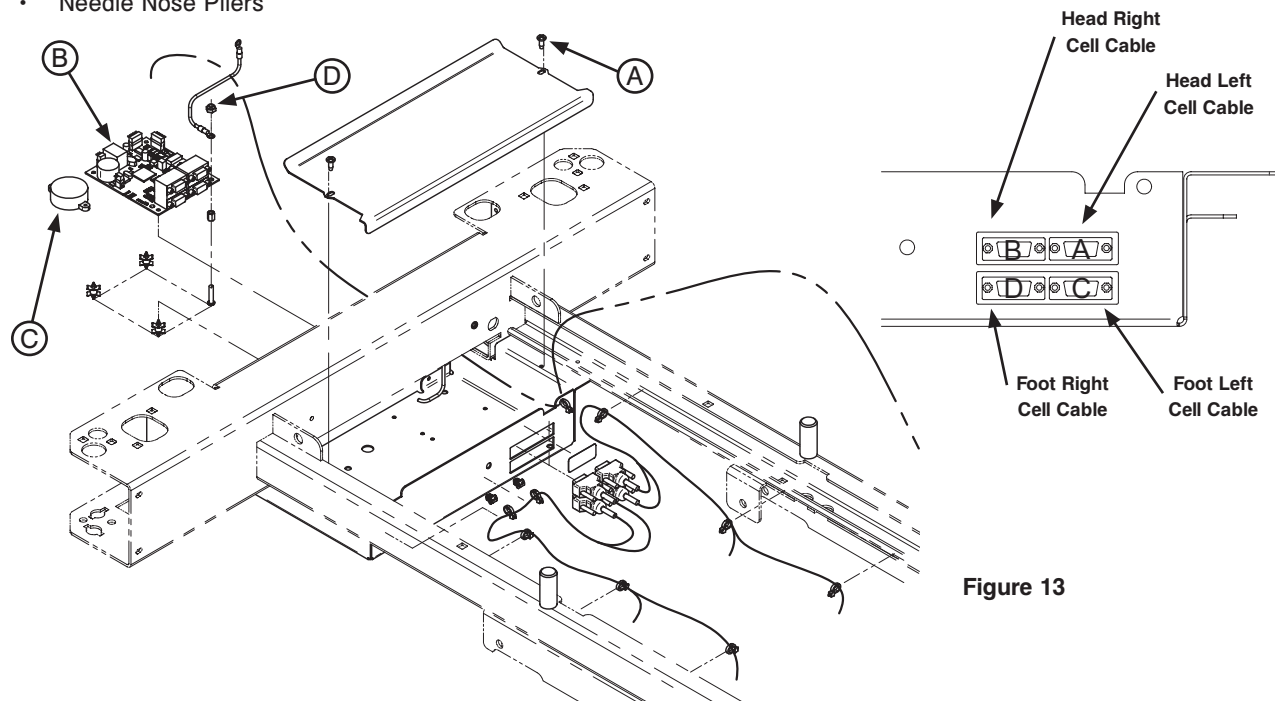

Figure 13
Refer to Figure 13, page 55, for this procedure.
Ensure the load cell cables on the scale/bed exit board are properly reconnected. Refer to Figure 13 when reconnecting the load cell cables.
3. Using a #2 Phillips screwdriver, remove the six screws holding the cover (A) to the litter. Keep the cable clips.
4. Using a #2 Phillips screwdriver, remove the two screws (A, Figure 13, page 55) holding the cover plate to the litter.
6. Using a 1/2" combination wrench, remove the nut (B), washer (C) and bolt (D) holding the transformer to the litter. Disconnect the transformer cable and remove it.